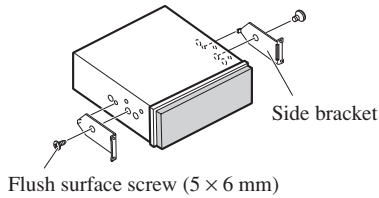

Fig. 10
2. Install side brackets. (Fig. 10)